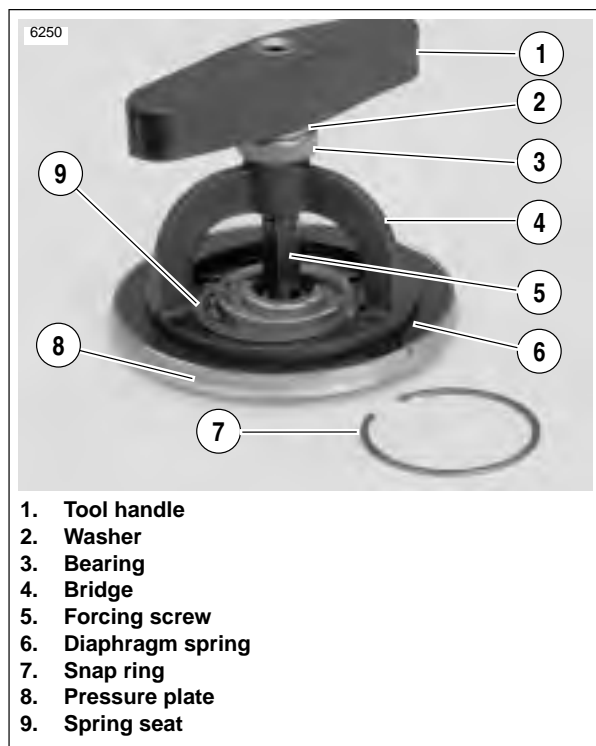

Figure 6-22. Pressure Plate Assembly
See Figure 6-22. Turn compressing tool handle *only* the amount required to install spring seat and snap ring. Excessive compression of diaphragm spring could damage clutch pressure plate.
- c. See Figure 6-22. Install SPRING COMPRESSING TOOL (Part No. HD-38515-A) onto clutch hub against diaphragm spring.